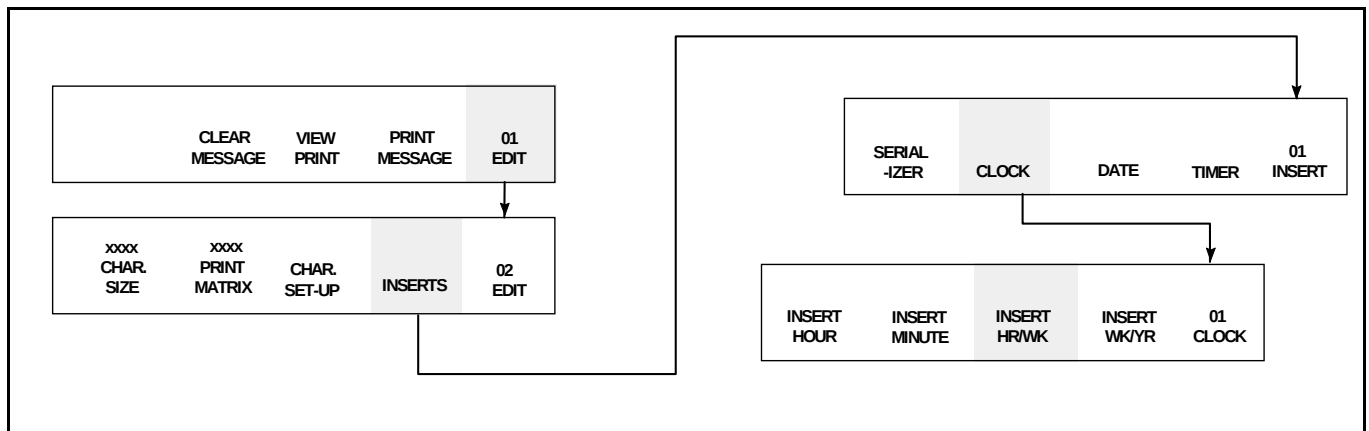

Figure 6-23. Accessing Frame <01 CLOCK>
1. Begin in Frame <01 CLOCK>. Refer to Figure 6-23.